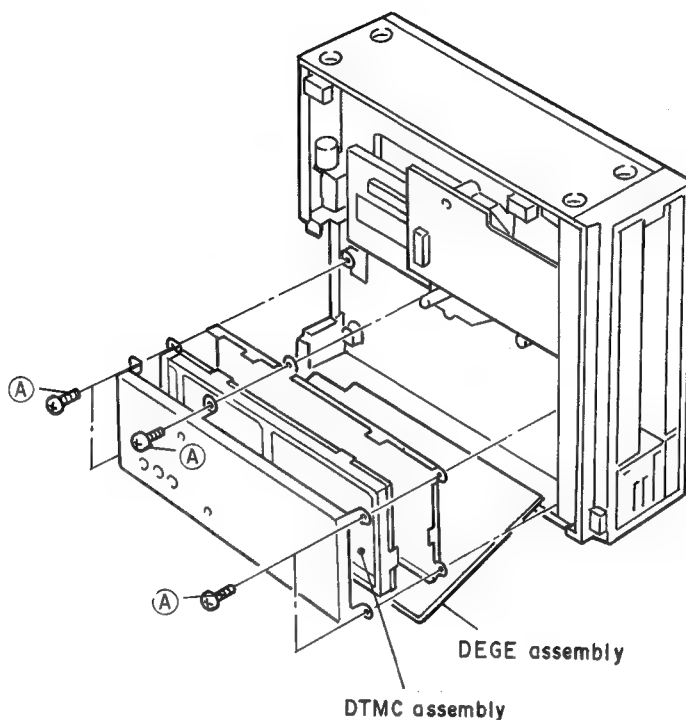

Fig. 9-6
• **How to remove the DTMC assembly (Fig. 9-6)**
1. Remove the five screws (A) to remove the DTMC Assembly.